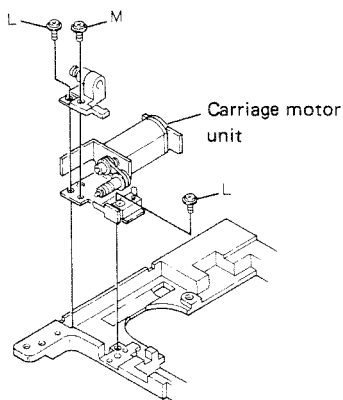

Fig. 20
• Carriage Motor Unit Removal (Fig. 20)